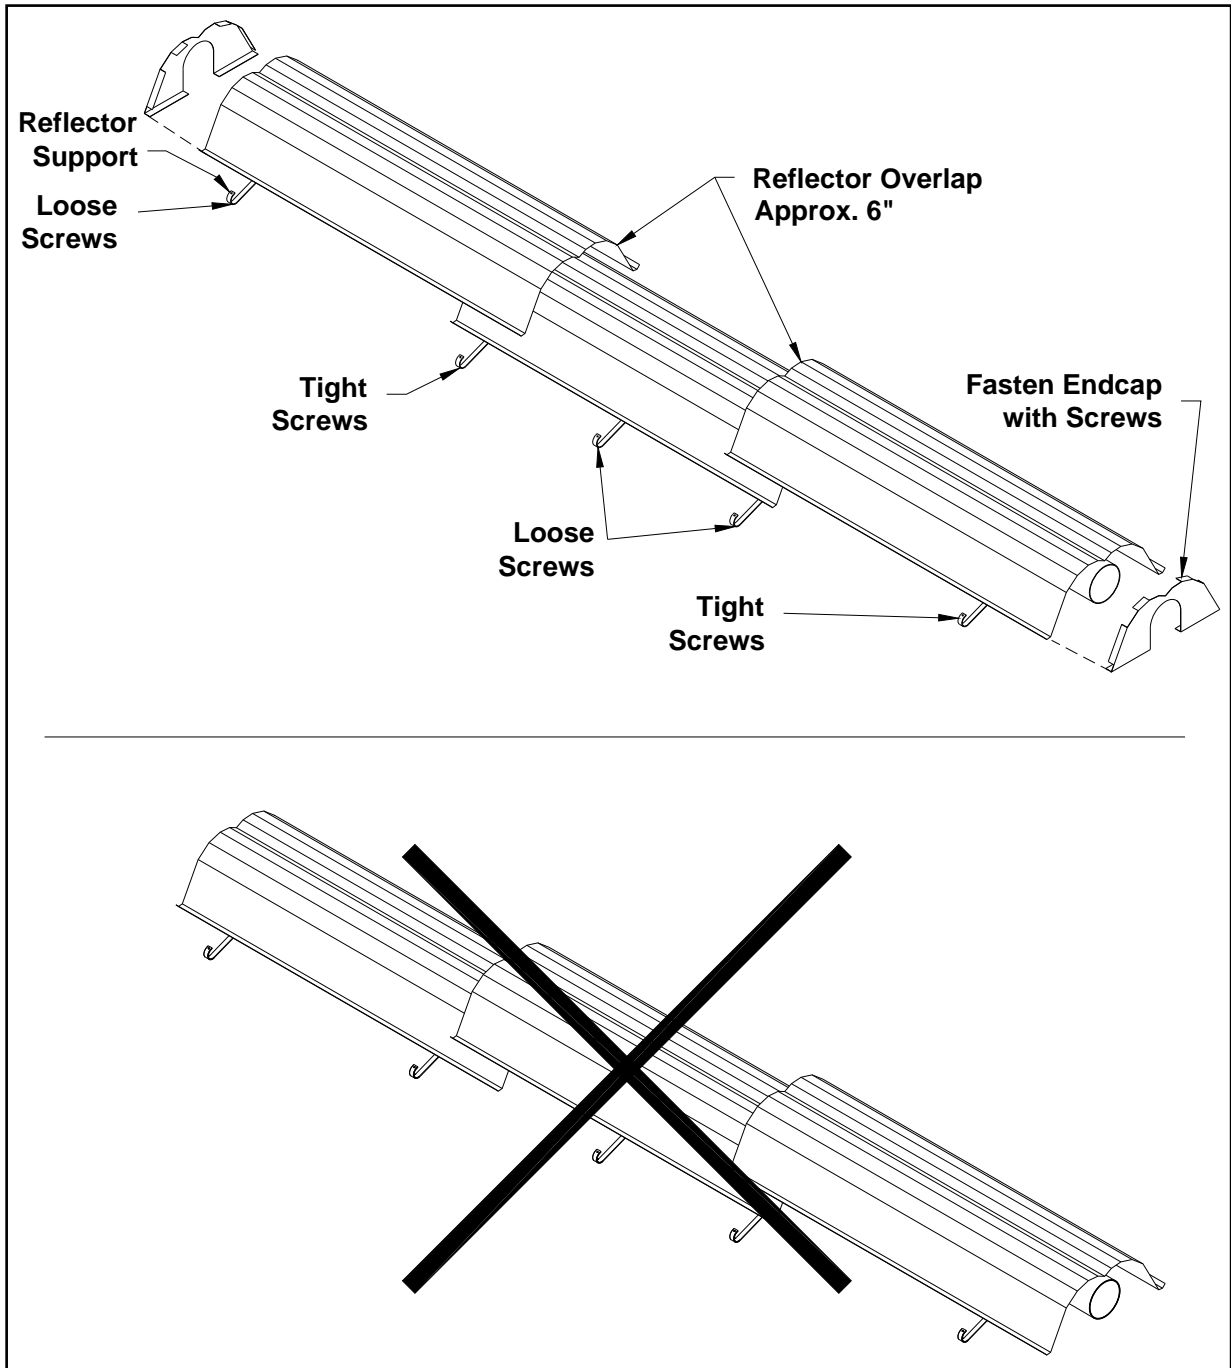

Figure 15: Reflector Overlap Illustration
*Note: Reflectors should overlap adjacent reflectors 4" to 6". Be sure not to tile reflector sections; that is, reflector sections must be either above both adjacent reflector sections, or below both adjacent reflector sections. (Figure 15).*